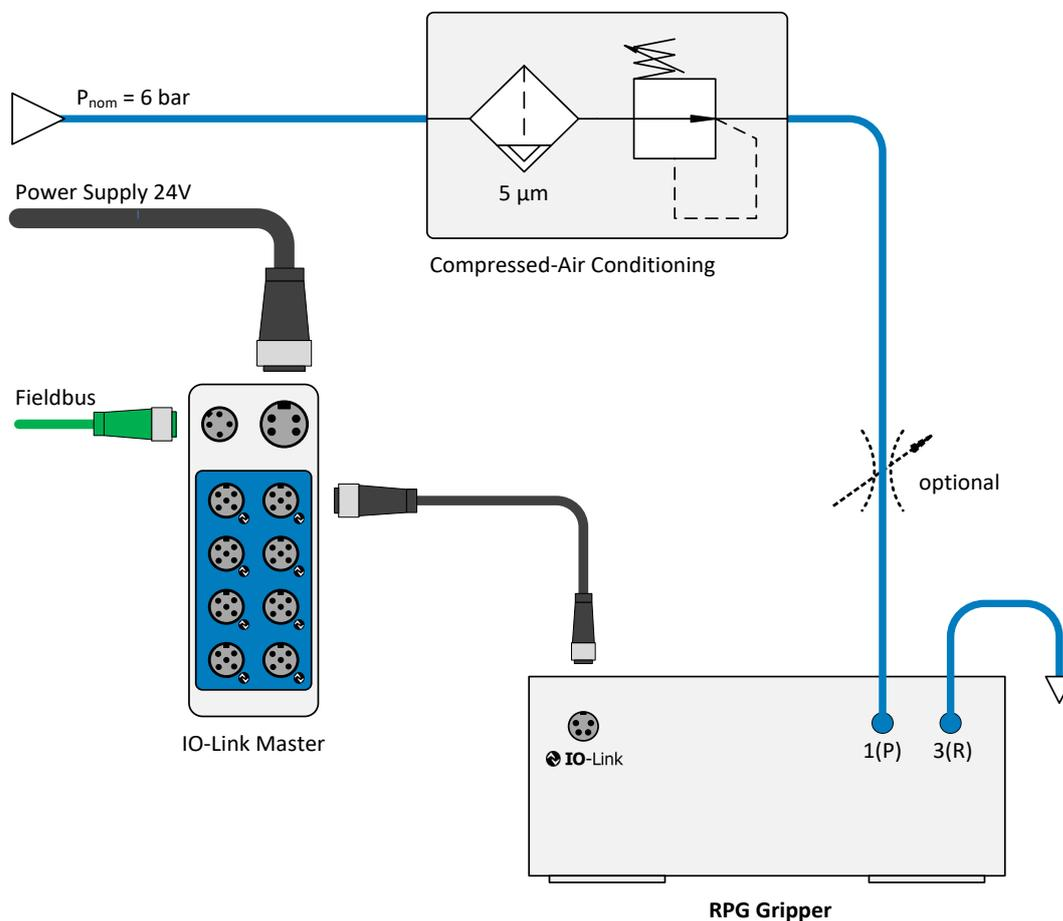

Figure 10: Connecting the gripping module
The gripping module has an IO-Link connection for control and one connector each for operating pressure 1 (P) and exhaust air 3 (R). At delivery, the connectors are covered with caps to prevent contamination. The caps must be removed before assembly. Figure 10 shows the electrical and pneumatic contacts of the gripping module. In this picture, a standard field bus coupler is used for the transition between field bus (e.g. Profinet) and IO-Link. If you need assistance in selecting the IO-Link components, please contact our technical support.